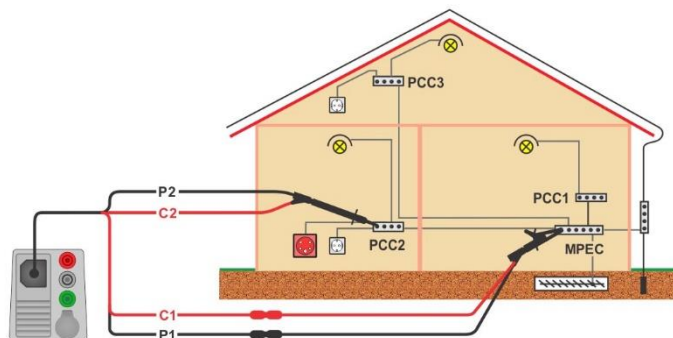

Figure 7.25: Connection of 4-wire test lead plus optional extension leads
- › Connect test leads to device under test, see **Figure 7.25**. Use extension leads if necessary.